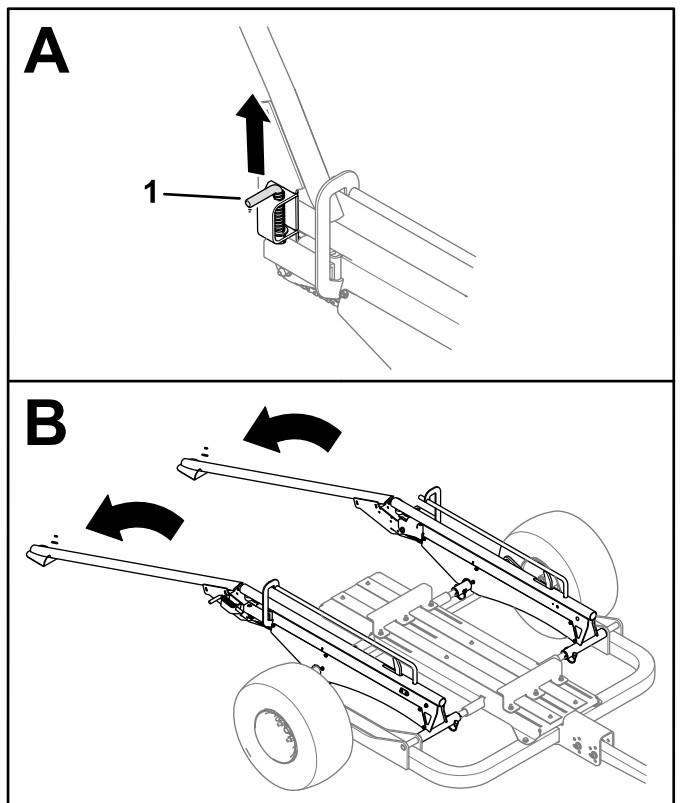

Figure 28
2. Pull the latch pins on both sides of the trailer to release the rails or ramps and lower them to the ground (Figure 28).